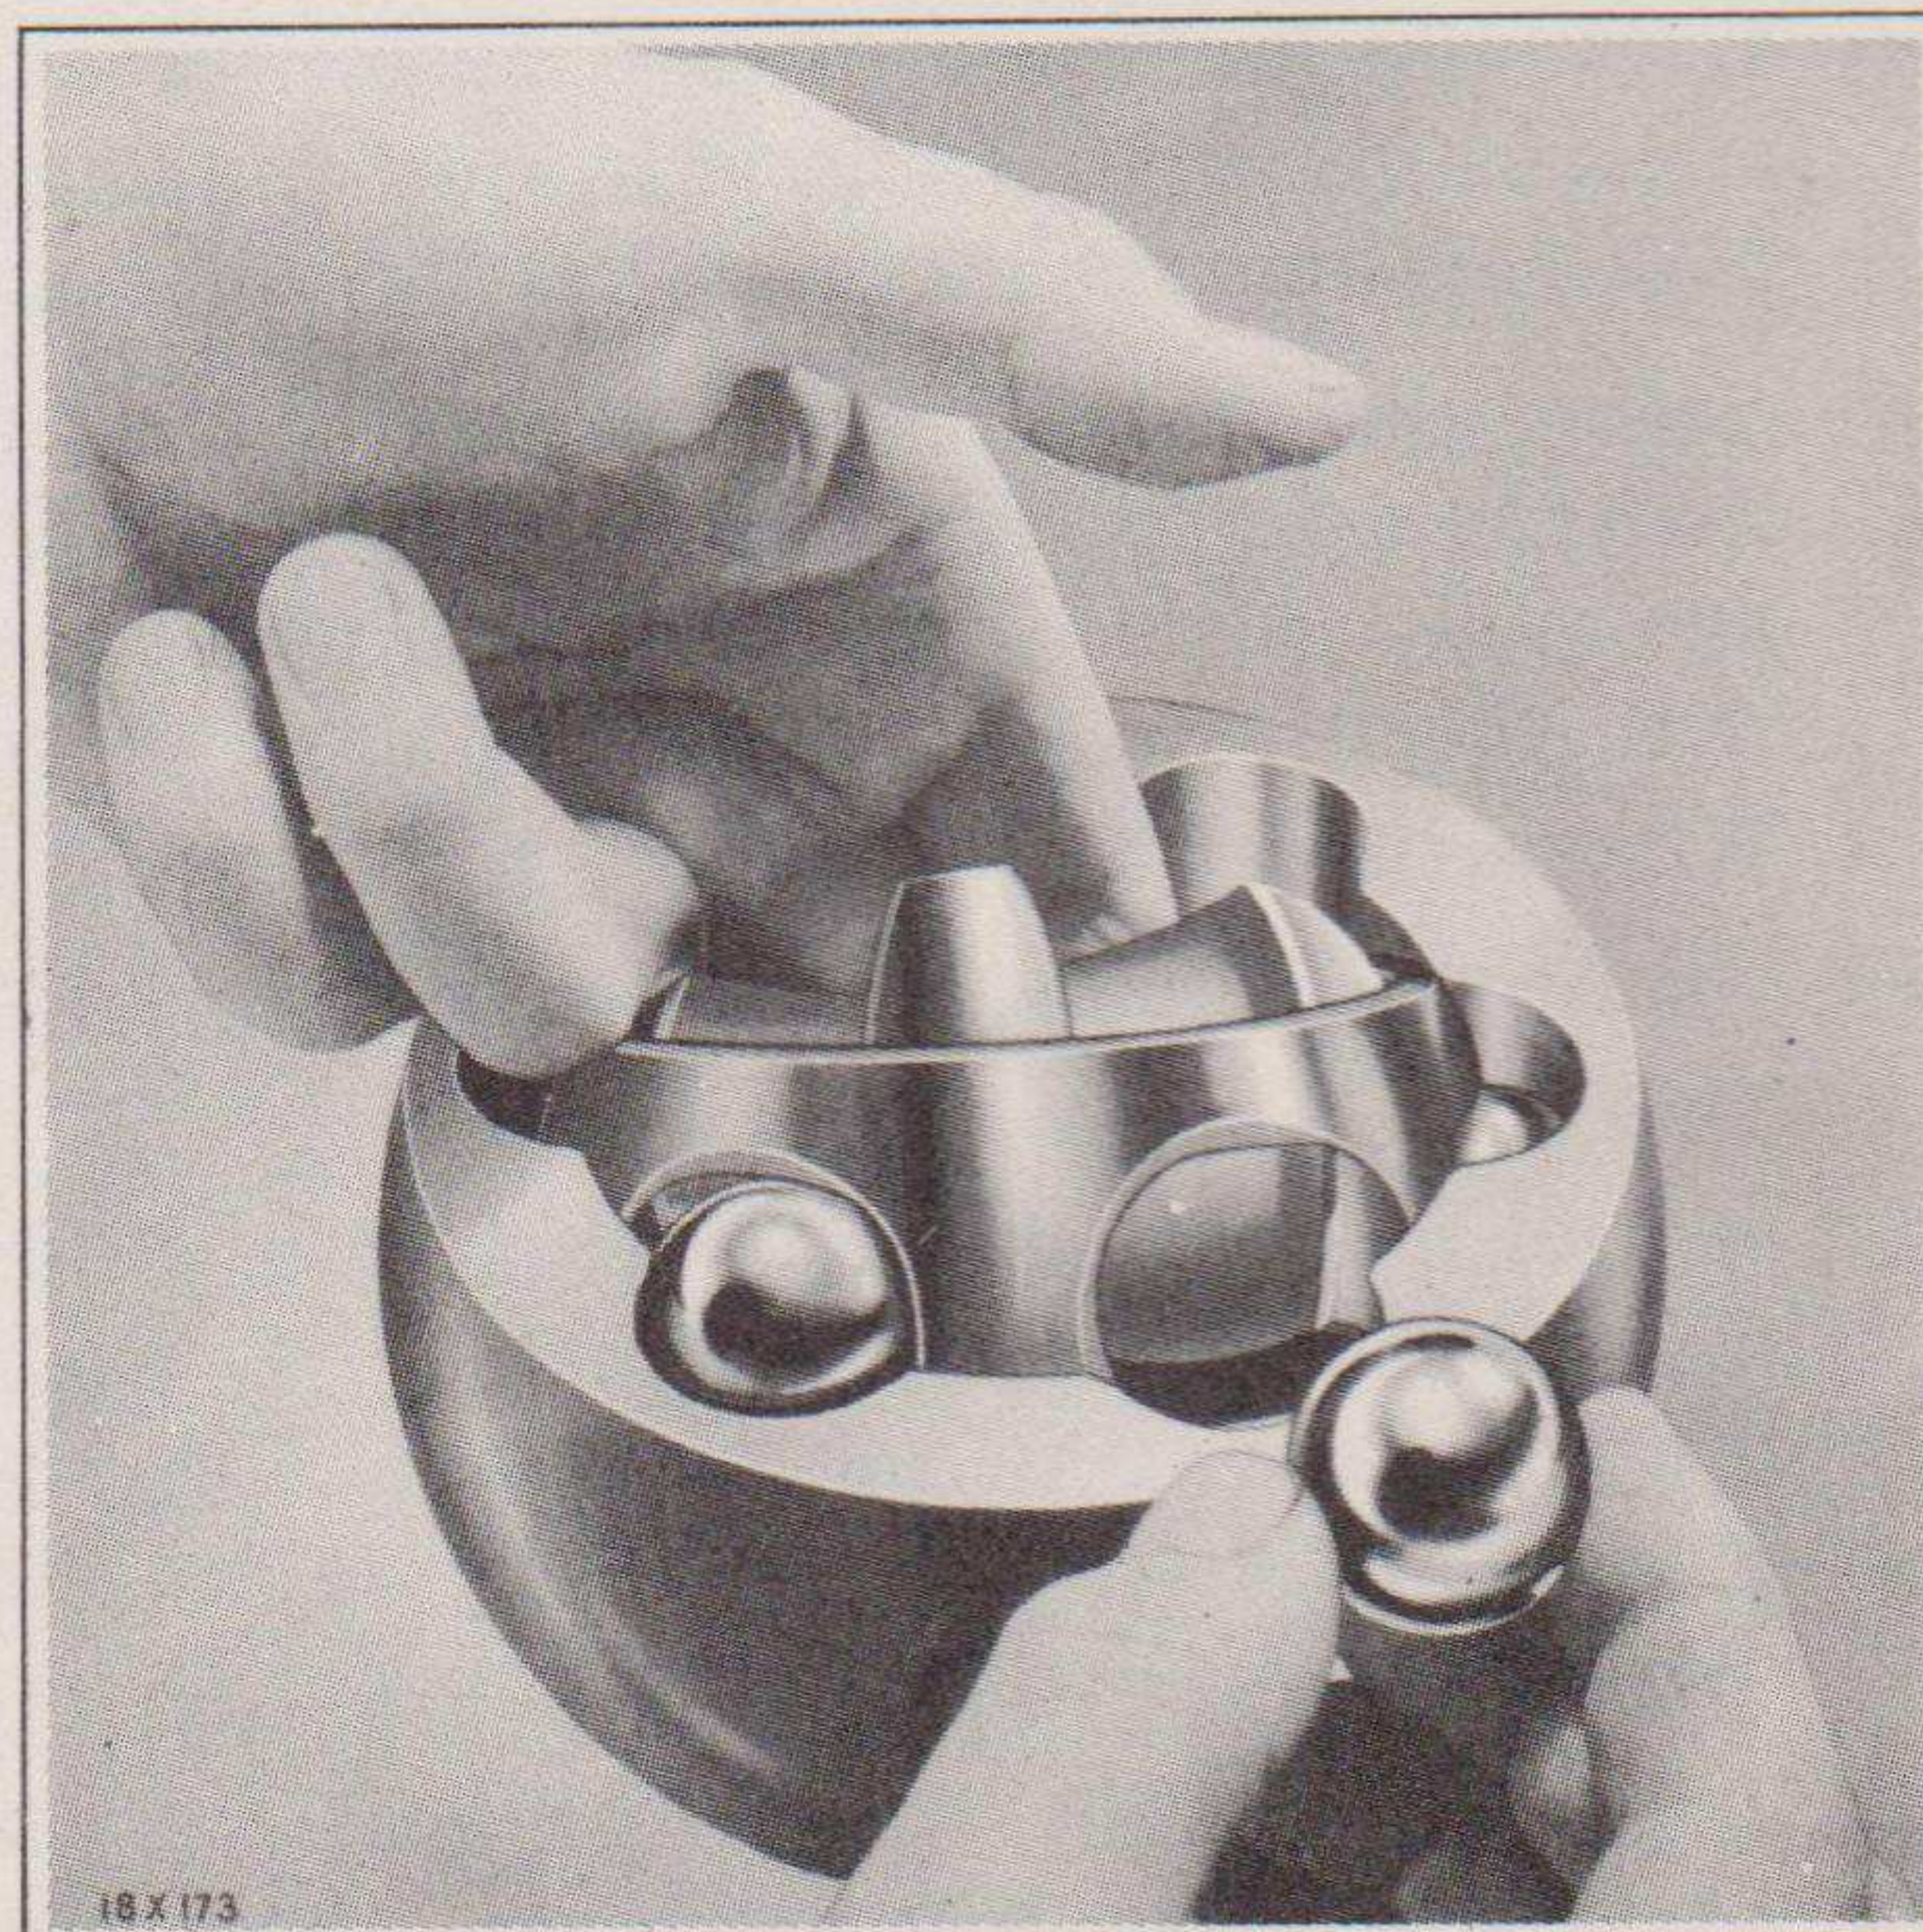

Fig. 23—Removing Universal Drive Ball (Rzeppa)
- (f) With the first two fingers of either hand, tilt the inner ball race and ball cage assembly as far as possible to bring one of the balls at the top of the raceway, as shown in Fig. 23, and at the same time cock the race and cage assembly slightly to one side to release the ball and allow easy removal of it. Remove the remaining balls in the same manner.